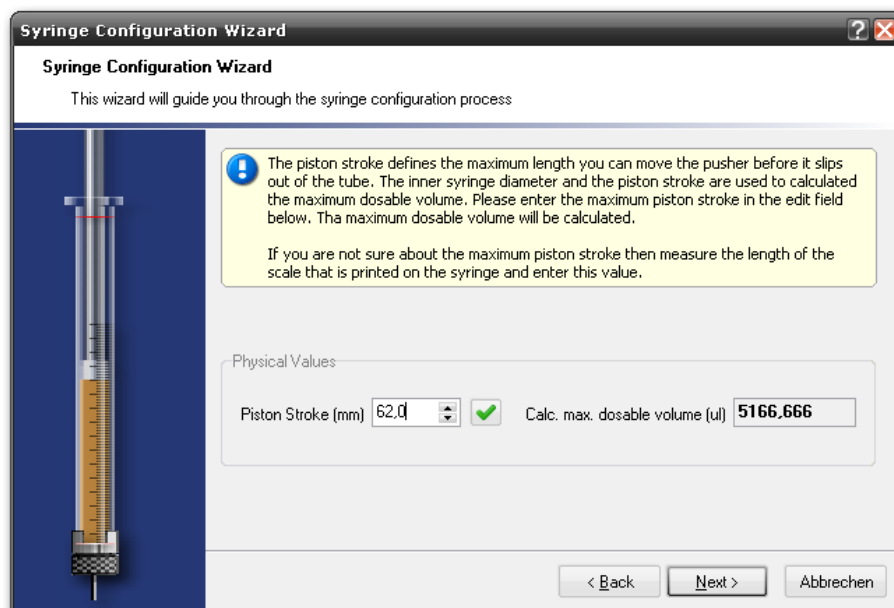

Figure 47 – Syringe Configuration Step 4 – Piston Stroke
- (4) Now configure the syringe's piston stroke (*Piston Stroke*) (Figure 47).. The piston stroke is the maximum length which the piston can be moved into the syringe without it leaking and fluid coming out. We recommend that you use the length of the scale on the syringe as the maximum piston stroke.